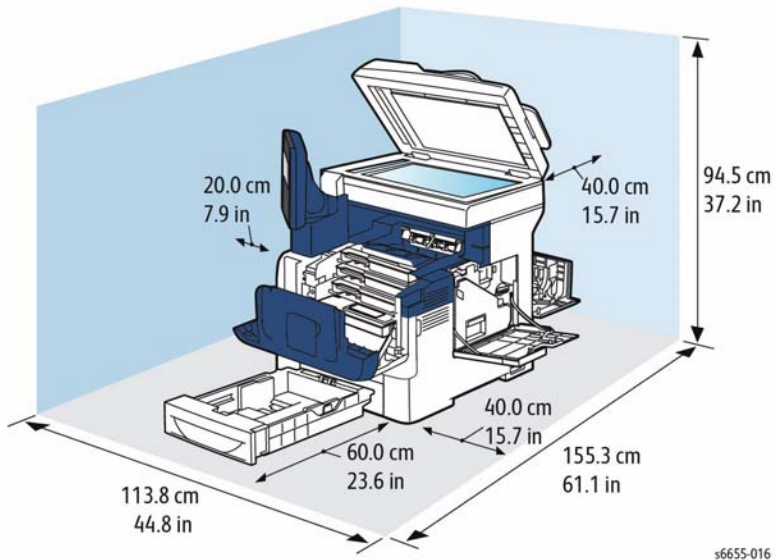
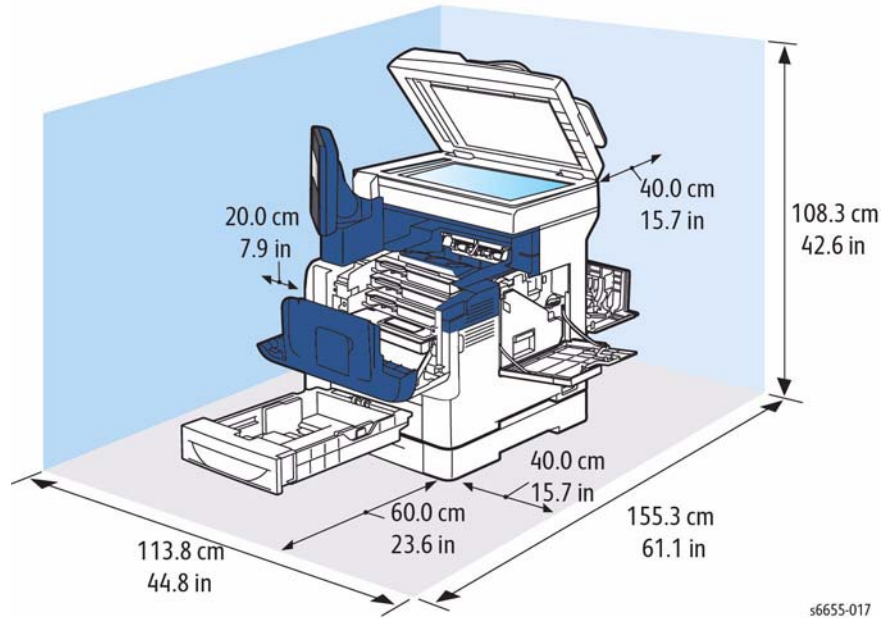

Figure 3 Minimum Installation Clearance Requirements: WorkCentre 6655
Figure 4 Minimum Installation Clearance Requirements: WorkCentre 6655 with Option 550-Sheet Feeder
1. In order to function properly, the printer must be placed on a flat surface with the following minimum clearances shown in Figure 3 (WorkCentre 6655) and Figure 4 (WorkCentre 6655 with option 550-sheet feeder).